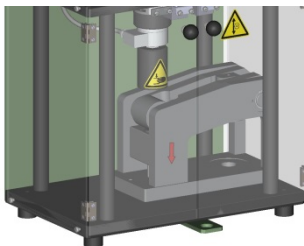

Figure 6.2.13
2. Align the High Pressure Measurement Attachment Base on the Minilab Base Plate (Figure 8.1, Item 4), ensuring that attachment cylinder pins are mounted in the corresponding holes on the machine base (see Figure 6.2.13).